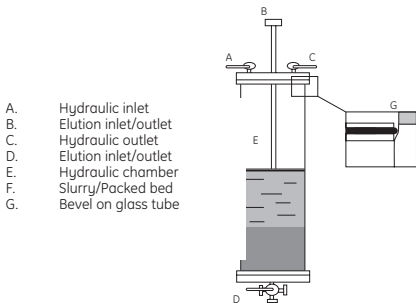

Fig 2. Schematic representation of INdEX column with a 4-port (2-way) valve mounted at the bottom outlet.
4. Connect the column outlet valve to the suction side of a pump and start packing the bed by suction through the bed at the predetermined flow rate, see Fig 2. Keep the flow rate constant during packing.
2. Pour the 75% slurry carefully into the column. Fill the column with buffer solution up to the edge of the glass tube. Mix the slurry and buffer solution. Allow the medium to settle to below the bevel (G) on the glass tube, see Fig 2.
3. Rest the adaptor against the bevel (G) on the glass tube. Tilt the lid slightly to avoid trapping air bubbles under the net when mounting it on the column. Lower and secure it in place.
4. Connect a pump to the inlet of the hydraulic chamber (A) in-line with a manometer and a pressure relief valve, between the pump and the hydraulic chamber. The manometer should be placed after the valve in the direction of the flow.
5. Open the hydraulic inlet (A) and the hydraulic outlet (C). Start the pump and flush the hydraulic chamber (E) free of air and any residual medium.
6. Close (C) and open the elution inlet/outlet (B) to expel trapped air in the adaptor net.